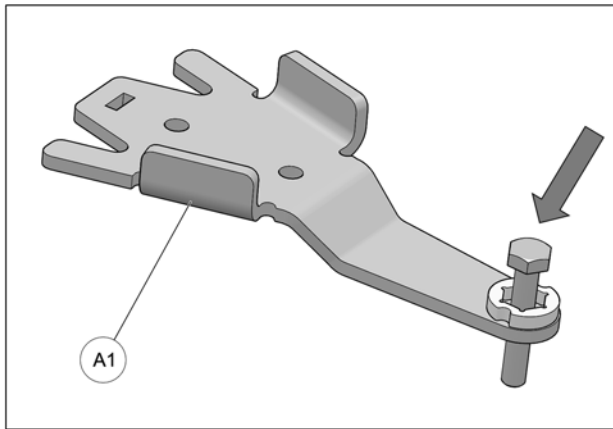

Fig. 14
4. Insert bolts in front anchor brackets (A1) as shown in Fig. 14